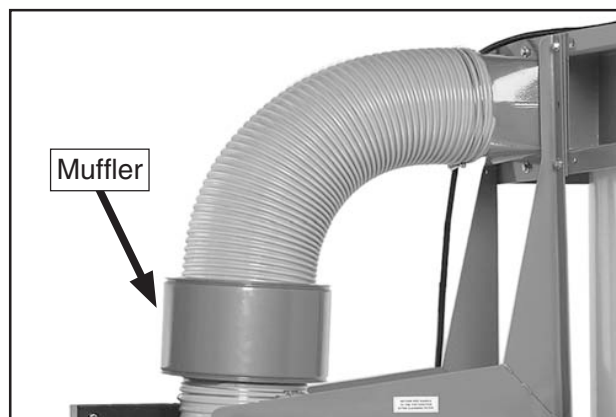

Figure 29. Muffler properly positioned between the two gray flexible hoses (Model G0441).
- b. Attach the 8" x 5" gray flexible hose between the canister adapter and the muffler with two 8" hose clamps, then attach the 8" x 20" gray flexible hose between the muffler and the outlet port with the remaining two 8" hose clamps (see **Figure 29**).